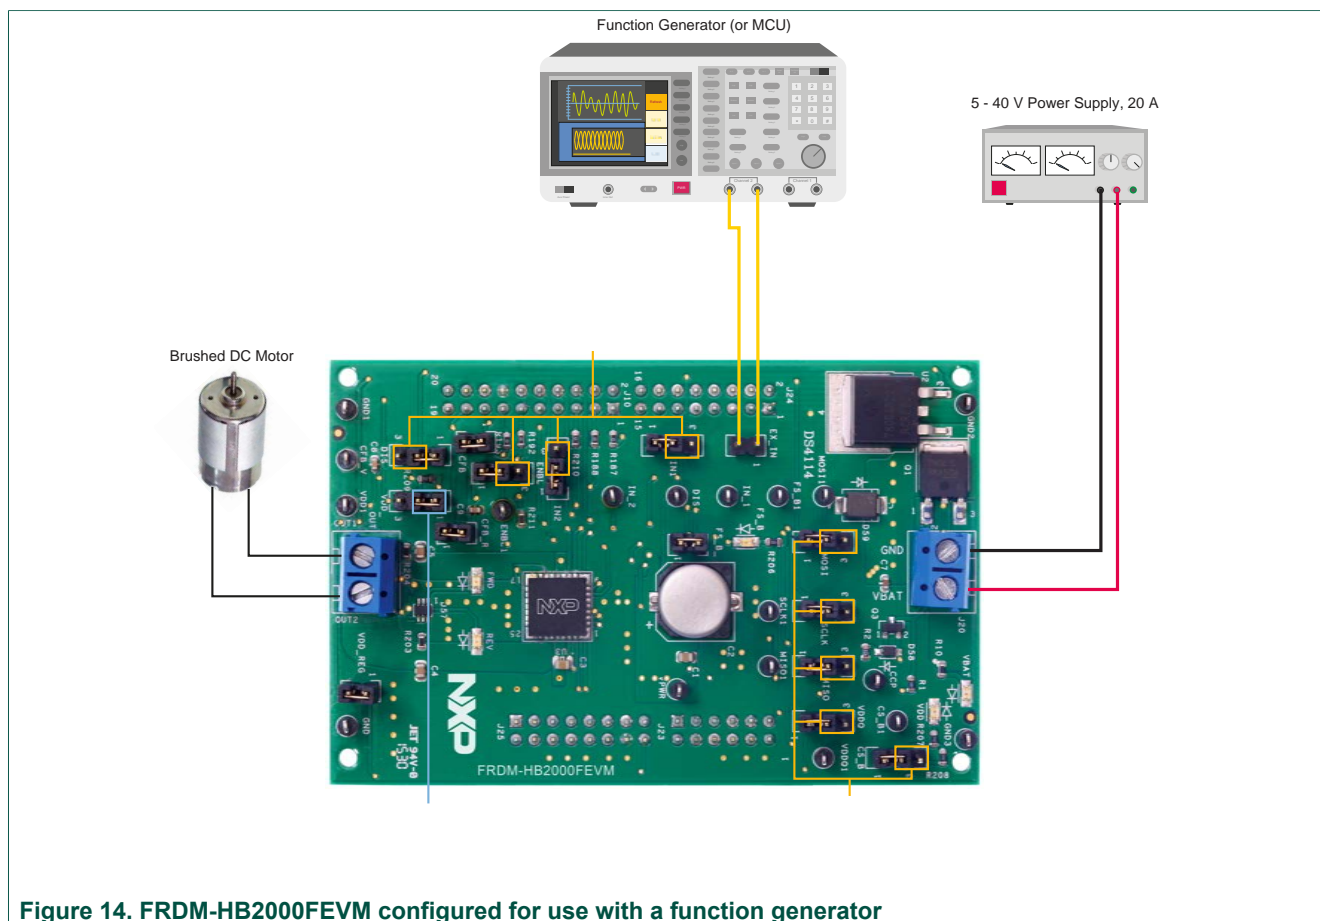

Figure 14. FRDM-HB2000FEVM configured for use with a function generator
2. Change the board jumper connections, as shown in Figure 14.
Figure 14 illustrates the hardware configuration.